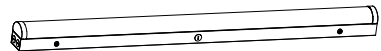

Figure 14
Step 3. Connect the wires according to the wiring instructions, adjust sensing mode as per demand, and then assemble the disassembled lamp back. (Figure 14)